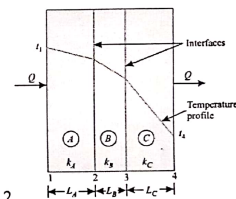

Fig. 2
- (a) Derive the equation for quantity of heat transferred for heat conduction through a composite plane wall shown in Fig. 2.